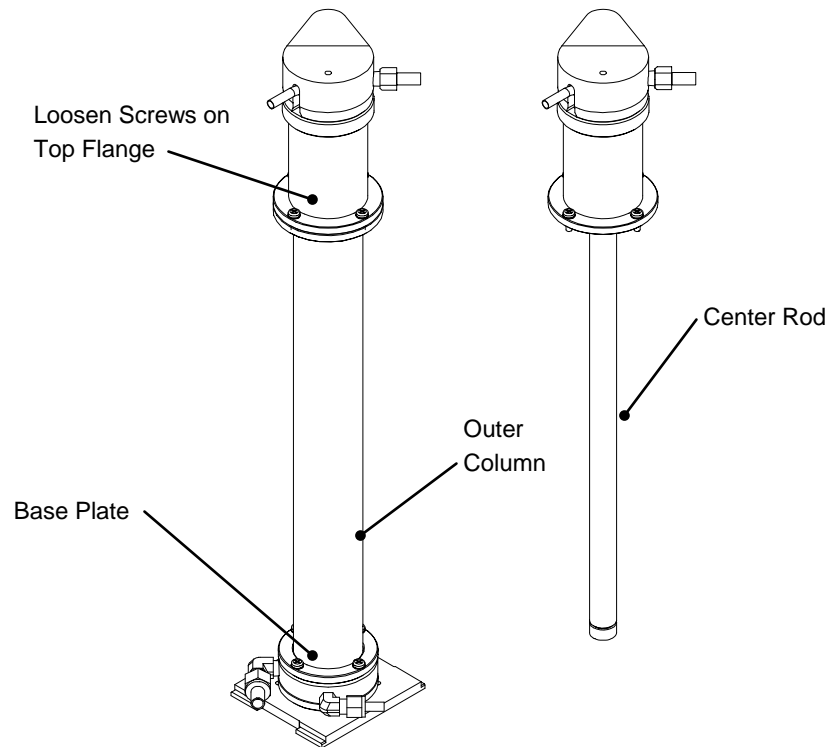

Figure 6-19
3. Locate the DMA column shown in Figure 6-19 and follow the high voltage wire from the top of the DMA column to high voltage plug at the bottom. **Disconnect the high voltage connector** by pulling out on the connector.
7. Loosen the four screws (see Figure 6-19) on the top of the flange, leaving them one turn from complete removal. Leaving the screws partially in place, helps control the disassembly process, preventing the parts from suddenly breaking loose and banging together internally.